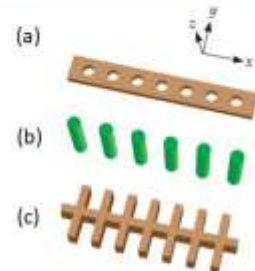

Figure 5: Examples of periodic dielectric waveguides, which combine one-dimensional periodicity (in x) and index-guiding in two transverse directions.
- Likewise, the structures from figure 5(a, c) typically favor TE-like gaps, while the one from figure 5(b) favors TM-like gaps.